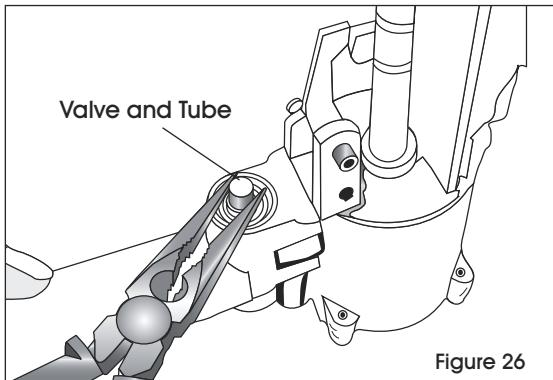

Figure 26
4. Remove valve and tube with needle-nose pliers. (See Figure 26)